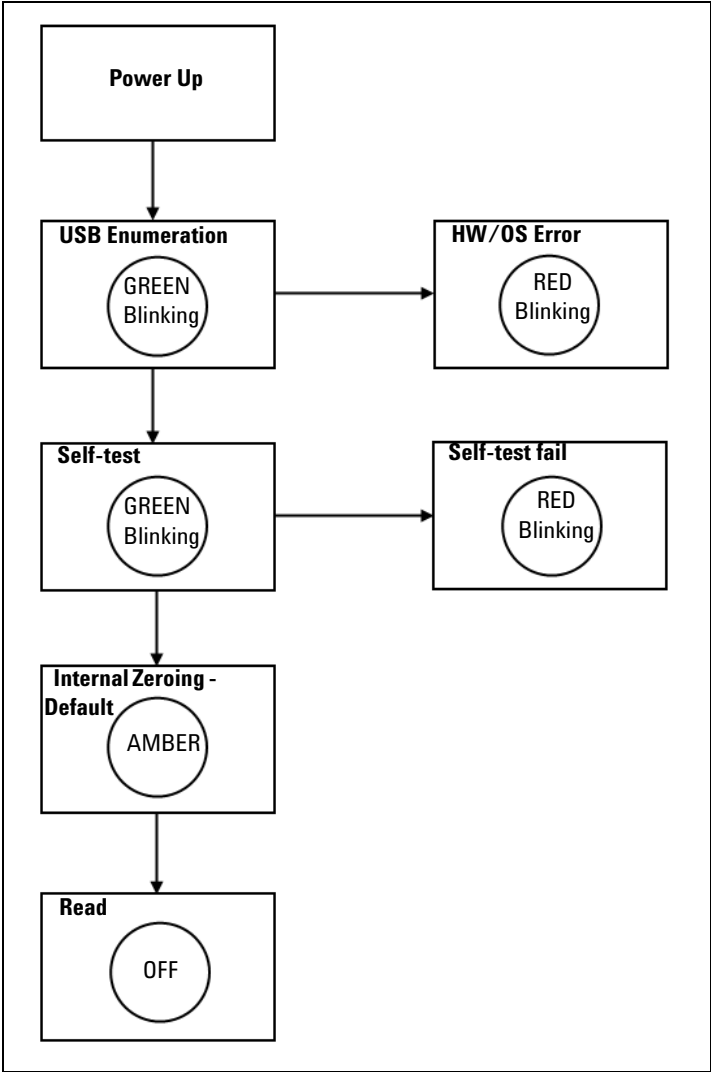

Figure 1-1 LED indicator sequence during power-up
- Figure 1-1 LED indicator sequence during power-up 5